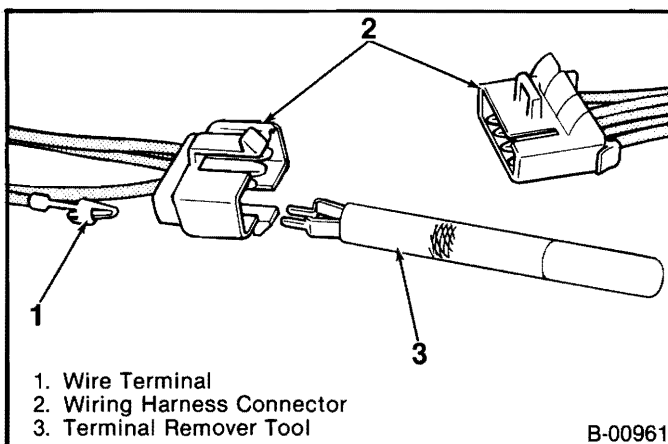

Figure 5—Replacing Twin Lock Connector Terminal
2. To remove a twin lock-type terminal from connector, disengage the lock tangs and separate connector. Terminal Remover J-22727 or equivalent as shown in figure 5, to disengage terminal locks from the connector. Pull the wire and terminal from the cable connector.